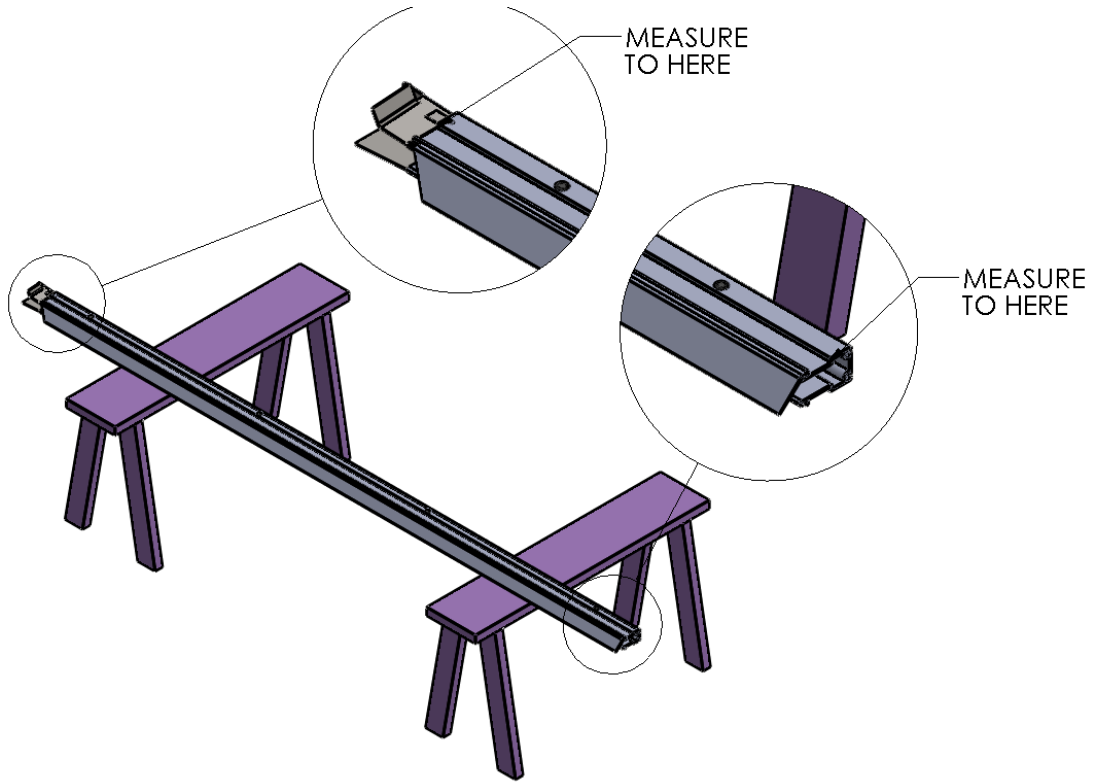
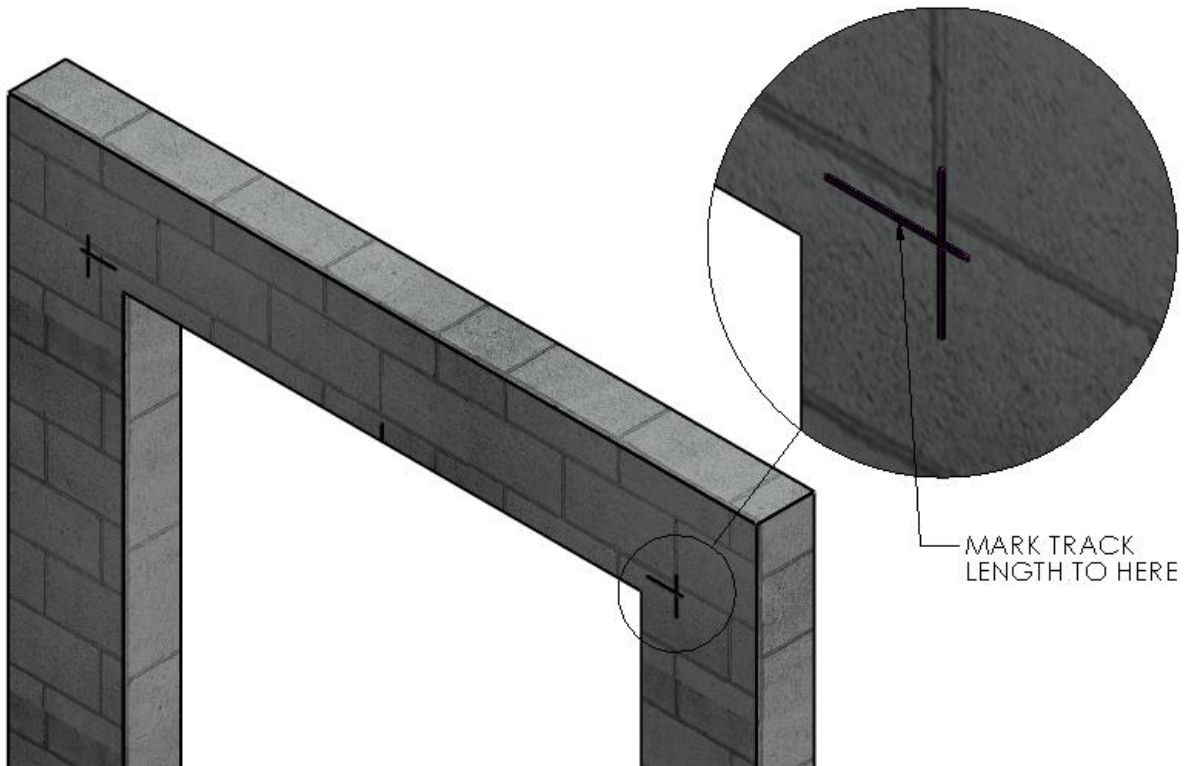

Figure 4 MEASURE TRACK HEIGHT
Figure 5 MARK TRACK HEIGHT
5. Set one of the Vertical Track Assemblies on your work surface and measure the length of the vinyl Track only. ADD 3-1/2" to this number and take note. This is the height dimension needed to mark the location of the Bottom edge of the Header Mounting Brackets. With this number, add a horizontal line on each side of the opening that intersects the previously drawn vertical line marking the overall width of the roll assembly. (Note: This mark should be 3-3/4" above the opening height.) (Figure 4 MEASURE TRACK HEIGHT) (Figure 5 MARK TRACK HEIGHT)